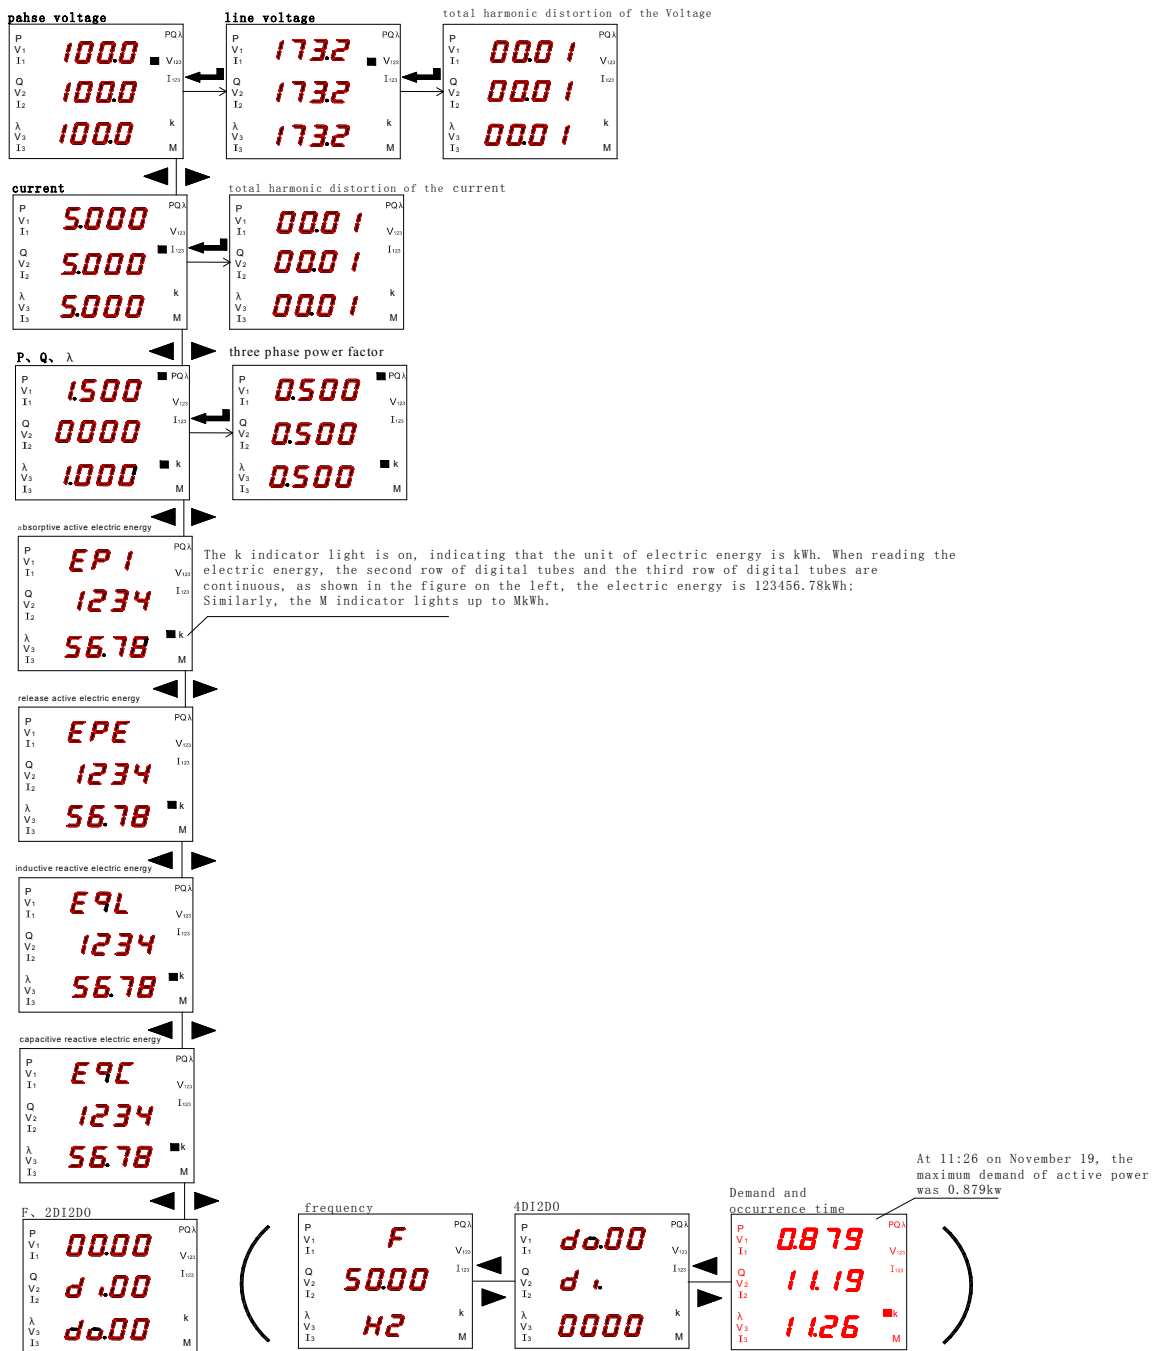
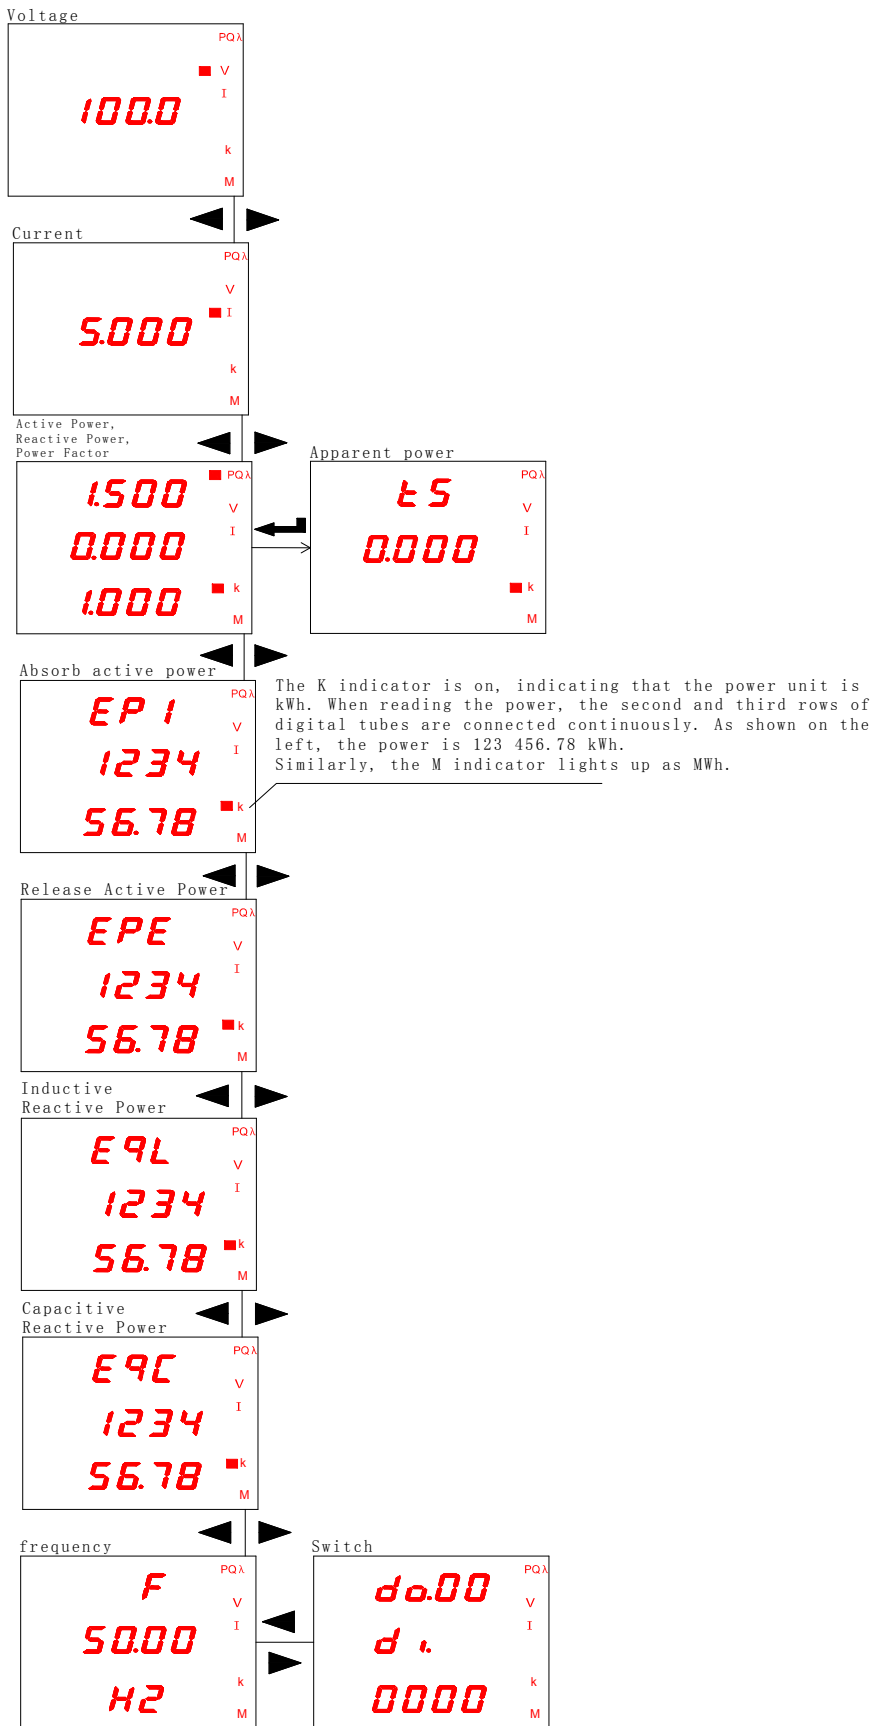

Figure 13
Figure 14
5.2.1 The operation steps of checking the current, voltage, power, electric energy and frequency of DEMP-AC3-DXX-E are shown in FIG. 13 and FIG. 14.